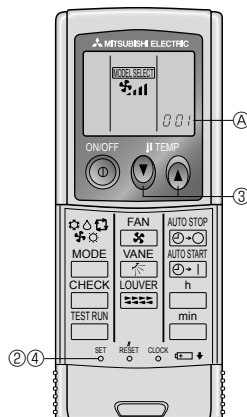

Fig. 6-6
3) Setting (Fig. 6-6)
- ① Insert batteries.
- ② Press the SET button with something sharp at the end.